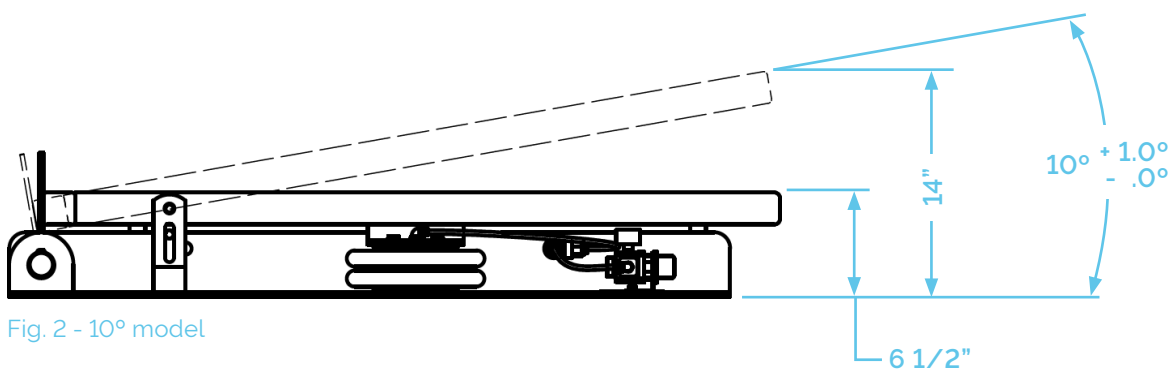

Fig. 2 - 10° model
- Check airlines for cracks and leaks. (See Fig. 2)